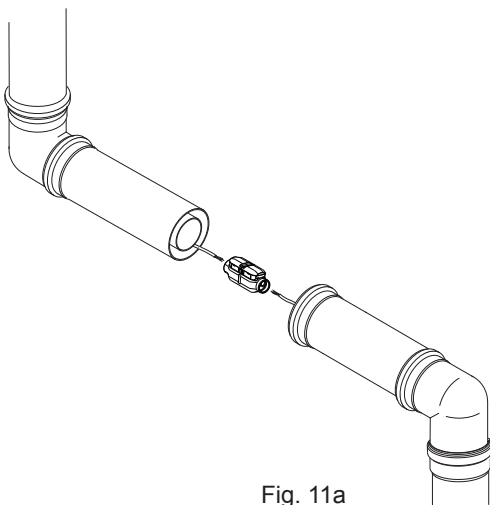

Fig. 11a
22. On shorter runs if there are several elbows in the flue (Fig. 11a) it is permissible to cut the standard IFOS cable and use the extension connector to ease installation.